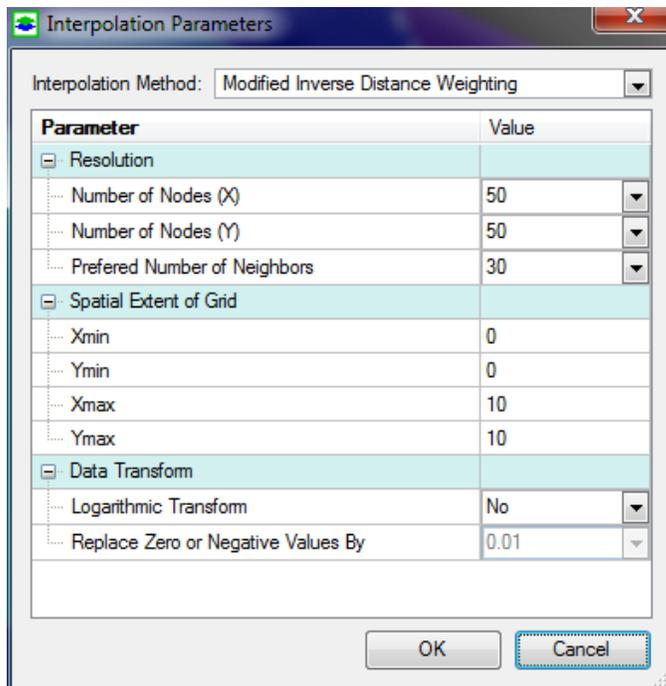

Figure 2.22. The Interpolation Parameters dialog box
- *Interpolation Parameters*: To generate a contour map, Seer3D creates a rectilinear grid and then interpolates the measurement values to each grid node by using the parameters defined in the the *Interpolation Parameters* dialog box (Figure 2.22). You can click on the  button to open this dialog box that contains the following parameters:
- *Interpolation Method*: Currently, the *Modified Inverse Distance Weighting* method is available. This method is based on a paper published by Shepard [19] that improves the pure inverse distance weighting method by adding functions to (1) intellectually select nearby data points based on data density and distribution, (2) include direction factor in addition to the distance factor in the interpolation algorithm, and (3) include slope between data values in the algorithm.
- *Resolution: Numbers of Nodes (X) and Numbers of Nodes (Y)* directions define the resolution of the rectilinear grid. *Preferred Number of Neighbors* defines the number of neighboring data points of a grid node that should be used to